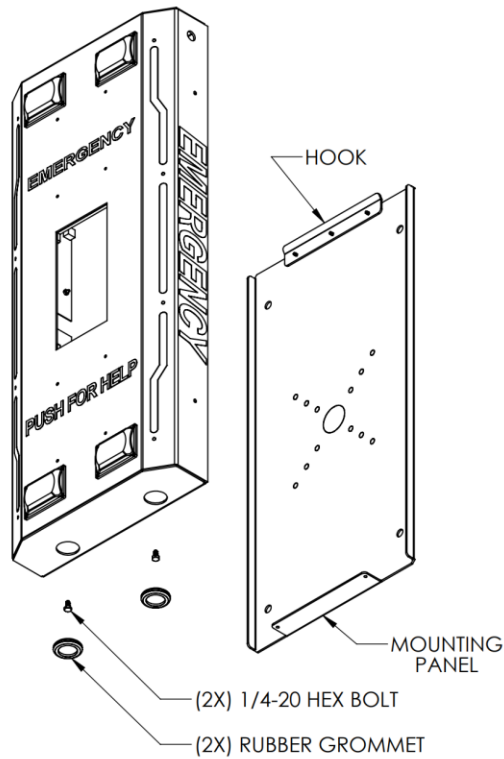

Figure 4 Exploded view of the wall station BLH.
- Remove the grommets on the underside of the wall station (see Figure 4).
- Use the driver and 7/16" socket to remove the ¼-20 hex bolts which secure the mounting panel to the wall station unit (see Figure 4).
- Use the driver and 7/16" socket to remove the 1/4-20 hex bolts which secure the mounting panel to the wall station unit (see Figure 4).